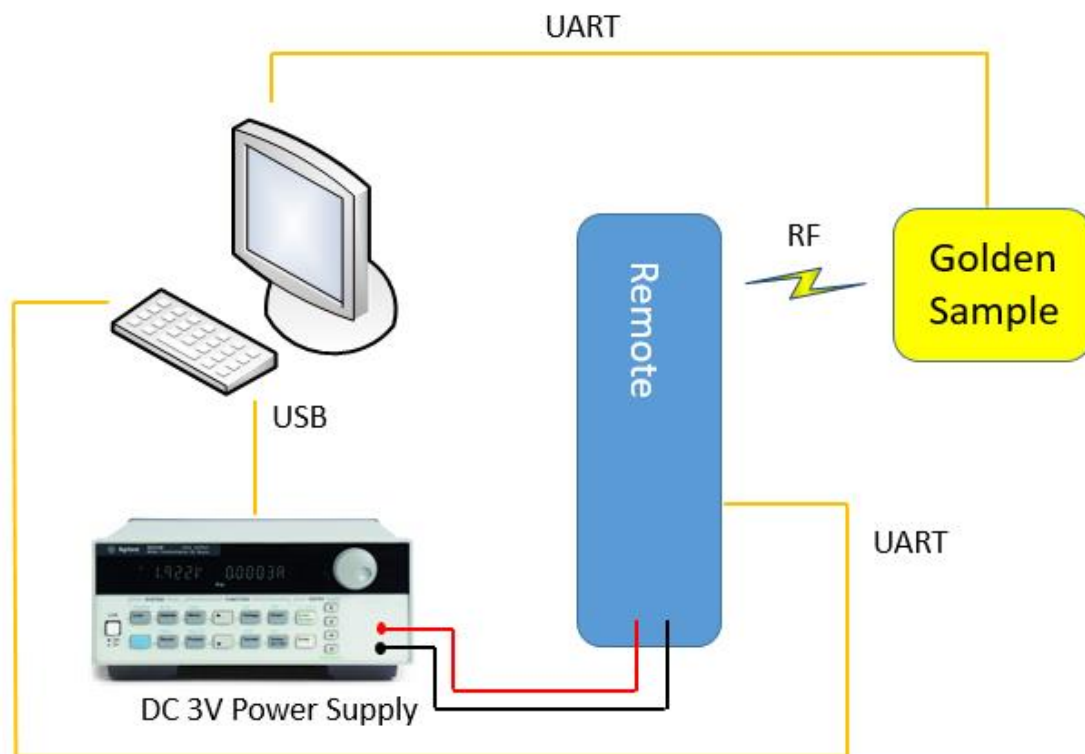

Figure 2.5 System Diagram of Frequency Drift Self-calibration
2. Self-calibration scheme. Under the circumstance that BLE RF frequency drift is strictly constrained, online self-calibration scheme should be applied. This scheme consists of upper device, Golden Sample calibration source and device under test, and its system diagram is shown in Figure 2.5. Golden Sample calibration source transmit Single Tone signal at fixed frequency. After RCU is triggered into self-calibration mode, it receives signal at fixed frequency to obtain Register configuration that minimizes frequency drift, and value of frequency drift by internal algorithm. Finally, compare the minimized value of frequency drift with threshold of upper device, return the results of tests.